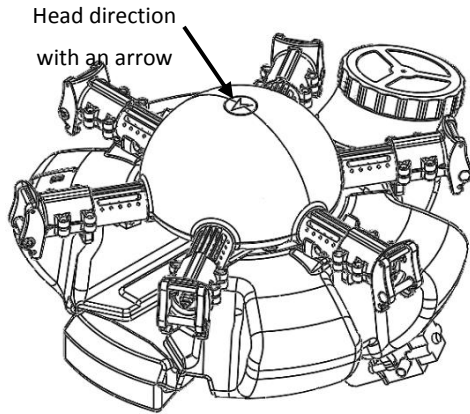

Figure 3
- 2) Install the fuselage and the water tank kit according to the mark ,1-3,2-4. It will be completed like Figure3.